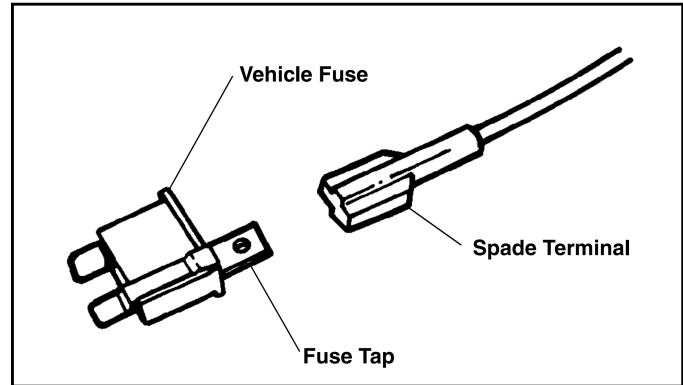

Figure 1-4
13. Using a test probe, determine the fused "Dead/OFF" side of the fuse and attach the A.T.O. fuse tap to that side of the fuse. (See Figure 1-4).